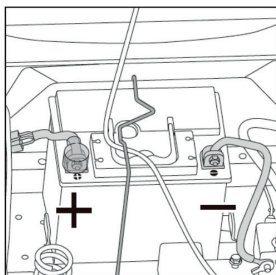

FIG.29
2. REMOVE THE "J" END (A) OF THE BATTERY ATTACHMENT ROD THROUGH A SMALL HOLE. (FIG.29)
3. REMOVE THE OTHER END OF THE BATTERY ATTACHMENT ROD INTO THE CONCAVE GROOVE. (FIG.29)